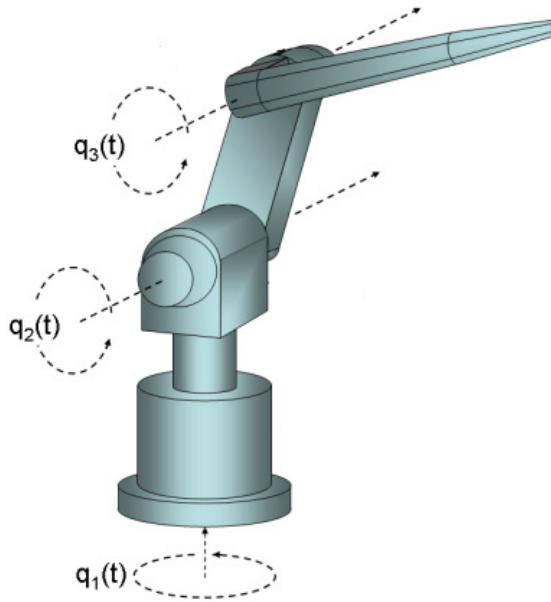

Figure 2: 3-DOF manipulator for Problem 3.
3. Consider the manipulator in Figure 2. Take the arrows on the joint axes as the indication of the direction of rotation (for joints 2 and 3 the direction of the arrow on the axis is not consistent with the direction of the rotation marking).
4. Consider again the manipulator in Figure 2. Place the frame S at the base of the manipulator, with its z axis corresponding to the axis of Joint 1 and its x axis parallel to the axis of Joint 2. Further, assume that Link 3 lies in the $y-z$ plane of frame S and that the end-effector frame T is located at the very end of the link 3. Also, assume that the lengths l_1 , l_2 , and l_3 of the links 1, 2 and 3, respectively, satisfy $l_1 > l_2 > l_3$. Sketch or describe the **reachable workspace** of the manipulator. Ignore possible collisions between links and assume every joint can rotate for full 360° .